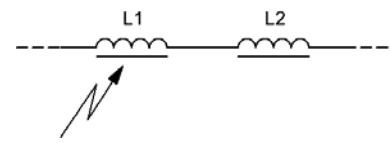

Bild 14.5.2.3: Break in the core
- Assume that at coil  $L_1$  in the circuit of Fig. 14.5.2.3, due to a manufacturing fault, a break occurred in the core in the coil. This has had an effect on the build-up and decay of the magnetic field. In such a case, how do the values change of the variables given below? Indicate the tendency in the form of up and down arrows.
Check your assumptions for  $I_L$  and  $U_{L_n}$  by measurement in the circuit shown in Fig. 14.5.2.1. Simulate the break in the core by removing half of the core in  $L_3$ .